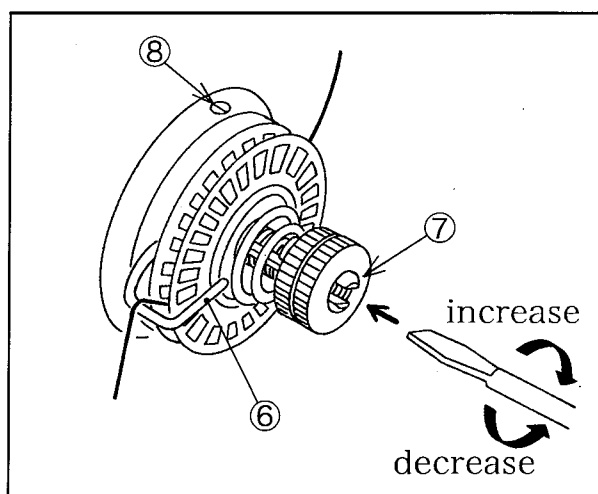

Fig.27
- ◇ To adjust the pressure of the take-up spring ⑥, insert a screw driver into the tension stud ⑦ in Fig.27 and turn it.
- To increase the pressure, turn the stud ⑦ clockwise.
- To decrease the pressure, turn the stud ⑦ counterclockwise.
- ◇ To adjust the moving range of the take-up spring ⑥, loosen the screw ⑧ in Fig.27 and turn the whole body of the tension.